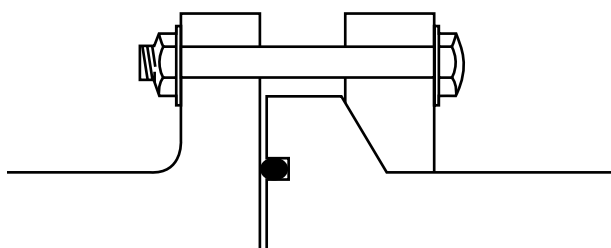

Figure 3-15 Loose ring flange with O-ring gasket
- 1 an "O"-ring seal (groove required in flange face, see **Figure 3-15**) and